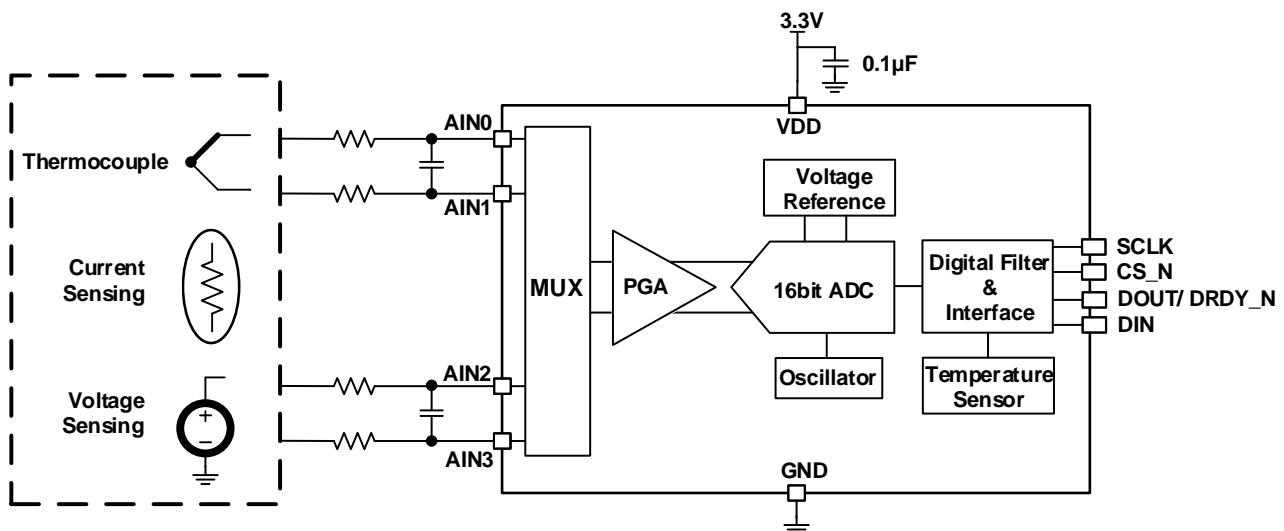

Figure 1. Typical Application Circuit
T_A = 25°C, V_{VDD} = 3.3V, schematic of Figure 1, data rate (DR) = 8 SPS, unless otherwise specified (Note 4).